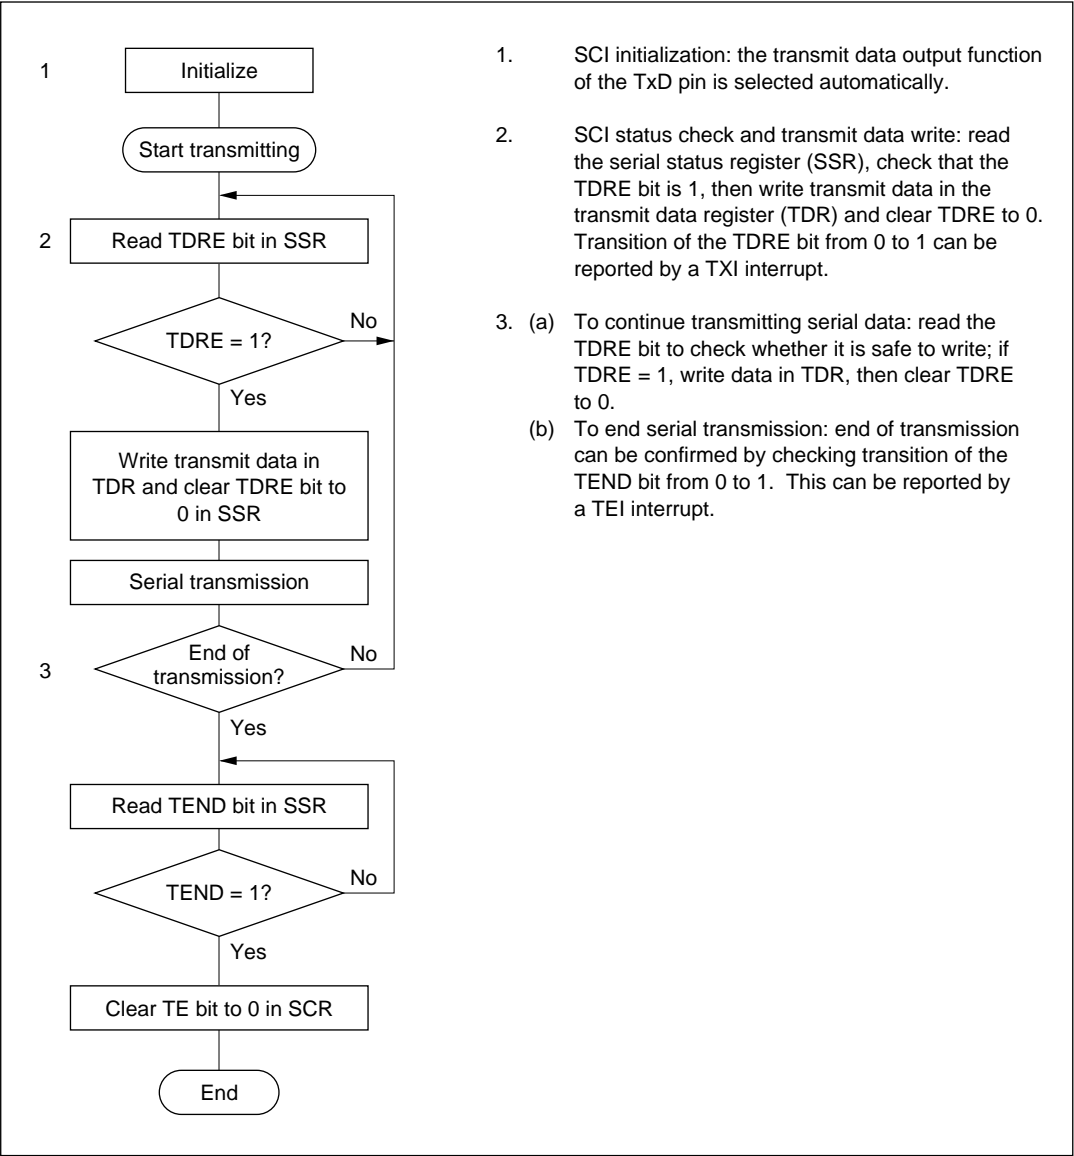

Figure 11-13 Sample Flowchart for Serial Transmitting
- Transmitting Serial Data:** Follow the procedure in figure 11-13 for transmitting serial data.